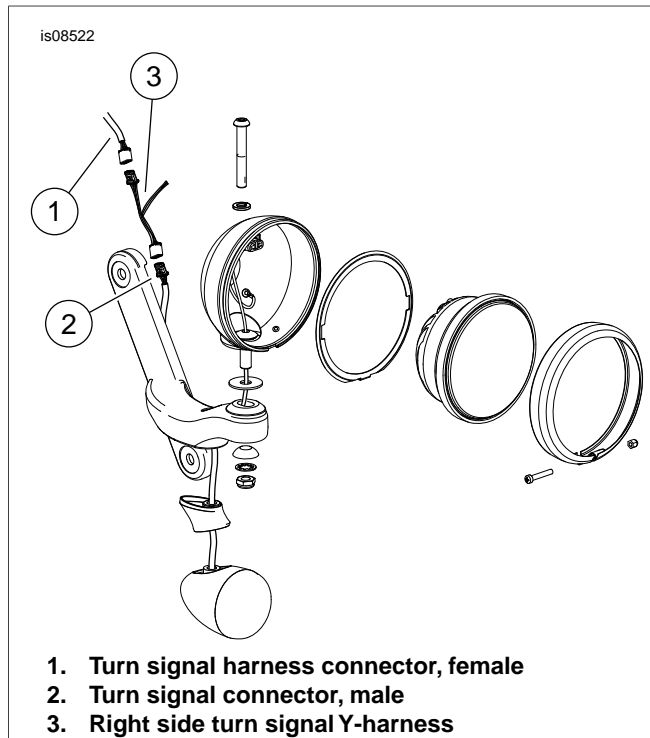

Figure 2. Auxiliary/Fog Lamp Assembly
2. See Figure 2. Locate and disconnect turn signal connector (2) from turn signal harness connector [31L or 31R](1).
3. Install the right side turn signal Y-harness(3) to the right side turn signal harness connector.
4. See the service manual. Connect the turn signal connector (2) to the right side turn signal Y-harness.